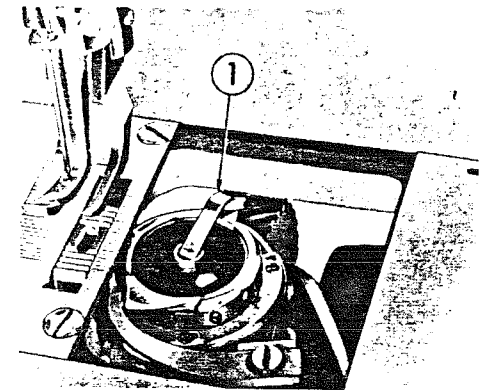

Fig. 7
7. To Remove the Bobbin (See Fig. 7)
Pull out the right bed slide, raise the bobbin case latch (Fig. 7 1) with your fingers and take out the bobbin.